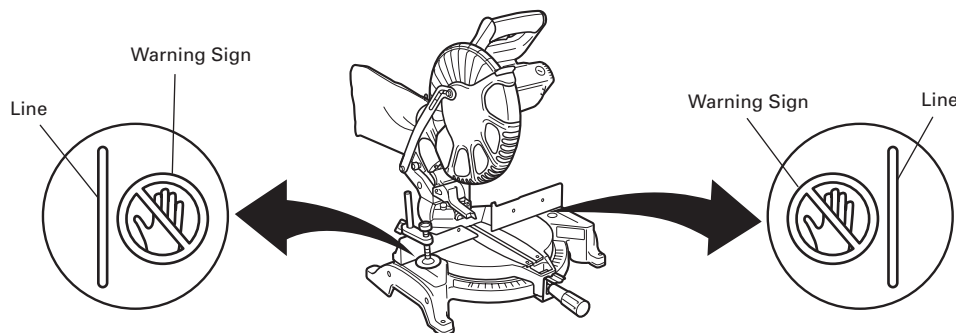

Fig. 18
* Never place your limbs inside of the line next to warning sign while the tool is being operated. This may cause hazardous conditions (see Fig. 18).